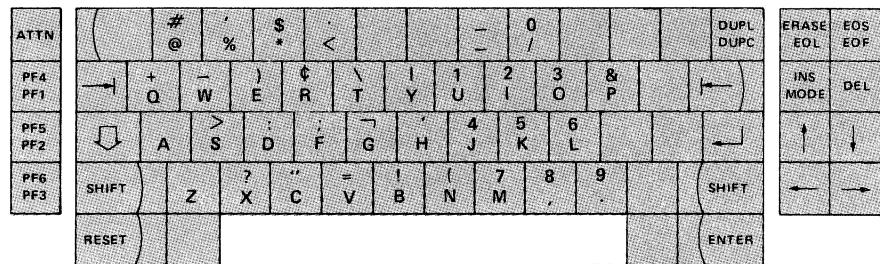

Figure 84. Space Bar
- When the space bar, as shown in Figure 84, is pressed in upshifted mode, a space code or blank is entered on the screen and replaces whatever character was in that position.